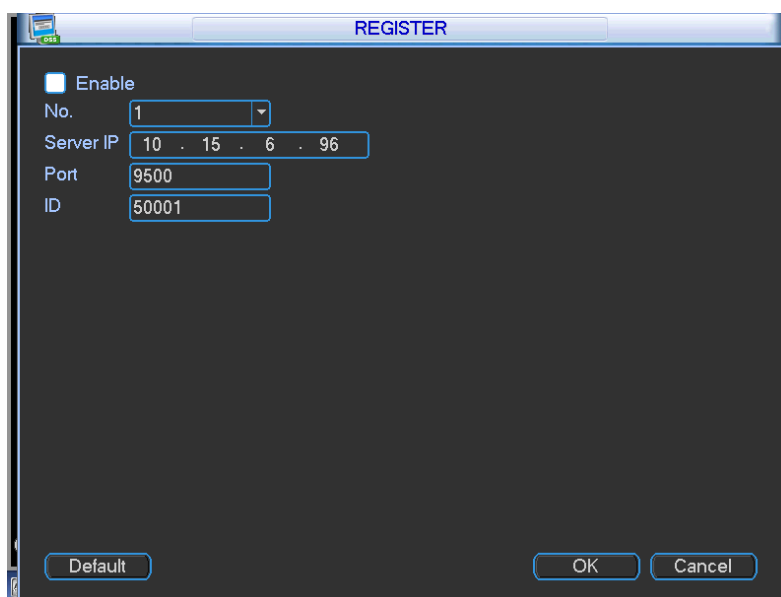

Figure 4-30
1) The setup interface is shown as in Figure 4-30.
3) Now you can add device. Please do not input default port number such as the TCP port in the mapping port number. The device ID here shall be the same with the ID you input in Figure 4-30. Click Add button to complete the setup.